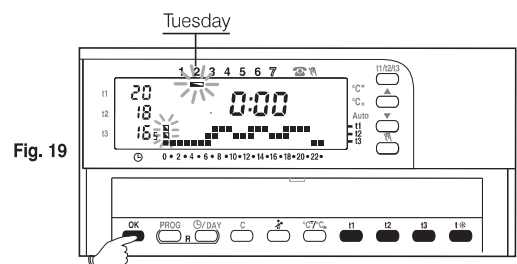

Fig. 19
When **OK** is pressed (fig. 18) to confirm, the program set for Monday is saved in the memory and the dash beneath **Tuesday (2)** will blink together with the digits pertaining to the time **0:00**, above the temperature range for the previous day (fig. 19).
Press **OK** (fig. 19) to apply the same temperature range as for Monday: the same range will be set for Tuesday and the dash pertaining to **Wednesday** will blink together with the digits corresponding to the time **0:00**.